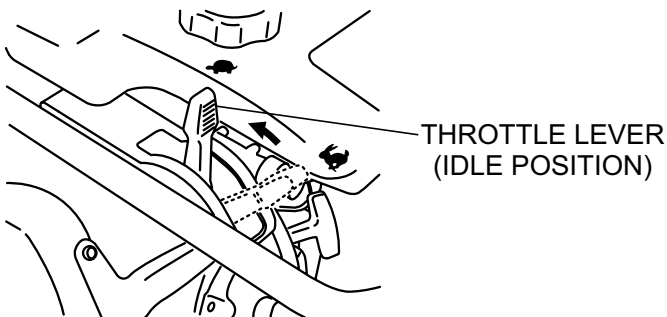
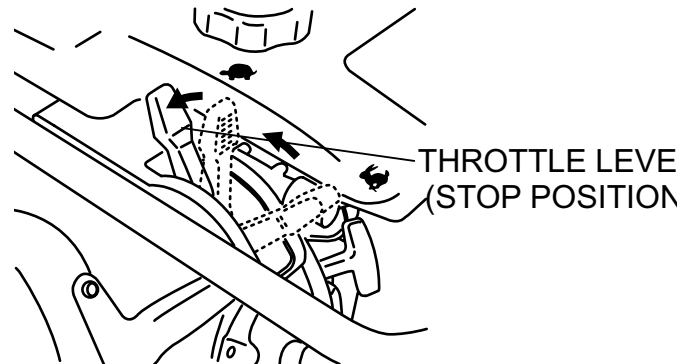

Figure 6. Throttle Lever (Idle Position)
Figure 10. Throttle Lever (Stop Position)
1. Slide the throttle lever from the stop to the idle position (👉) (Figure 6). This opens the fuel cock and the engine electrical circuit is turned on automatically.
3. To stop the tamping action, move throttle lever quickly from **START** to **IDLE** position (Figure 6).
1. Move throttle lever quickly from the **START** to **IDLE** position (Figure 6) and run the engine for three minutes at low speed. After the engine **cools**, move the throttle lever to the **STOP** position (Figure 10). The engine will stop and the fuel cock is automatically closed.